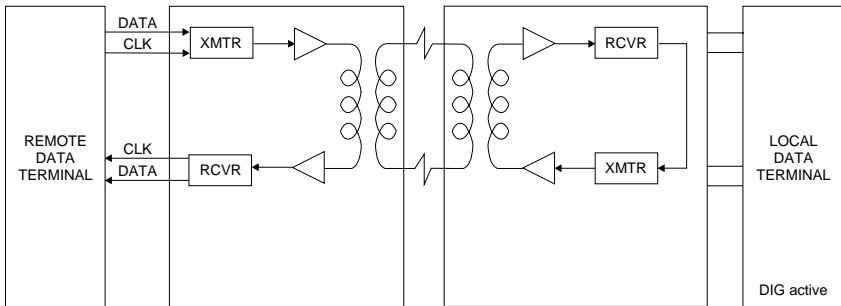

Fig. 5-3. Local digital loopback.
1. Push the local unit’s DIG (Local Digital Loopback) pushbutton. (There is no way to initiate this test electronically.) The TEST LED should light on both units as the local unit sends a local-loopback notification to the remote unit and then internally connects its receiver input to its transmitter output (see Figure 5-3 below).